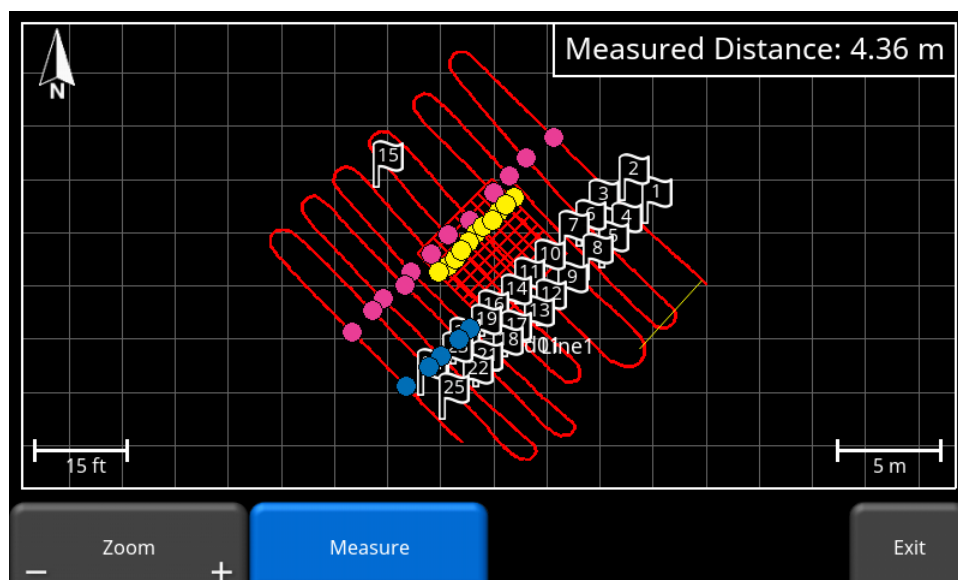

Figure 9-3: Using the Measure tool to draw a line on the screen
- When the **Measure** button is pressed, it is highlighted in blue. During this time, you can touch the screen and drag your finger a certain distance to get a measurement value for that distance. The distance value is displayed in the top right corner (Figure 9-3). Pressing the Measure button again exits from Measure mode and removes the yellow measured line and the measured value.